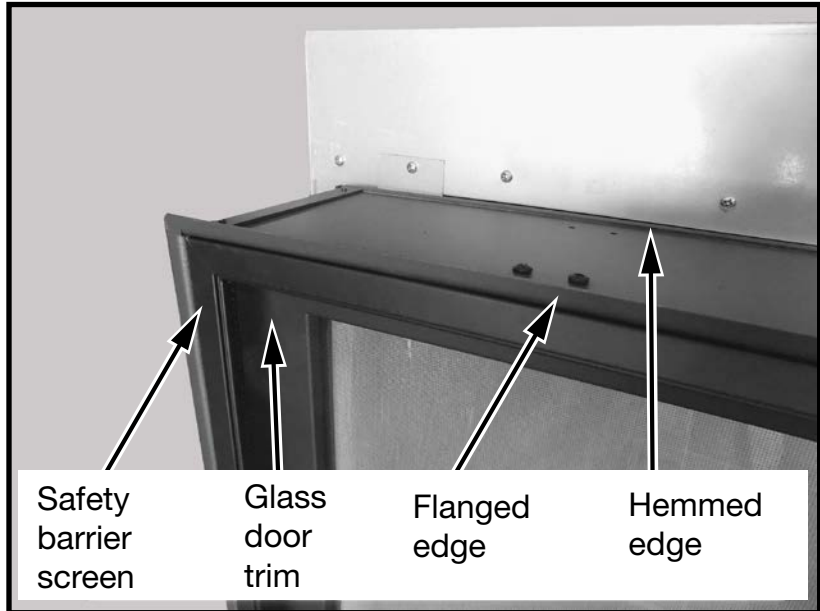

Figure 23: Lintel and trim.
1. The adjustable lintel assembly has two orientations for desired finishing. The flanged edge and the hemmed edge (Figure 23). The lintel comes factory installed with the flange edge out. If the desired edge is different from the factory setting, use the following steps to change it.